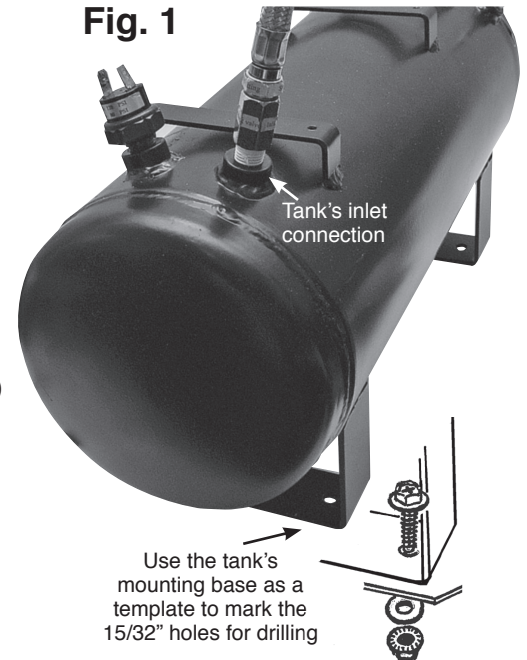

Fig. 2
**IMPORTANT:** Make sure the threaded fitting used to connect to the inlet port of the tank is 3/8" N.P.T. (National Pipe Thread). **IMPORTANT:** The fitting being installed to the inlet port, must have the threads wrapped with Teflon® tape or coated with pipe sealant to prevent air leaks. (Fig. 2)